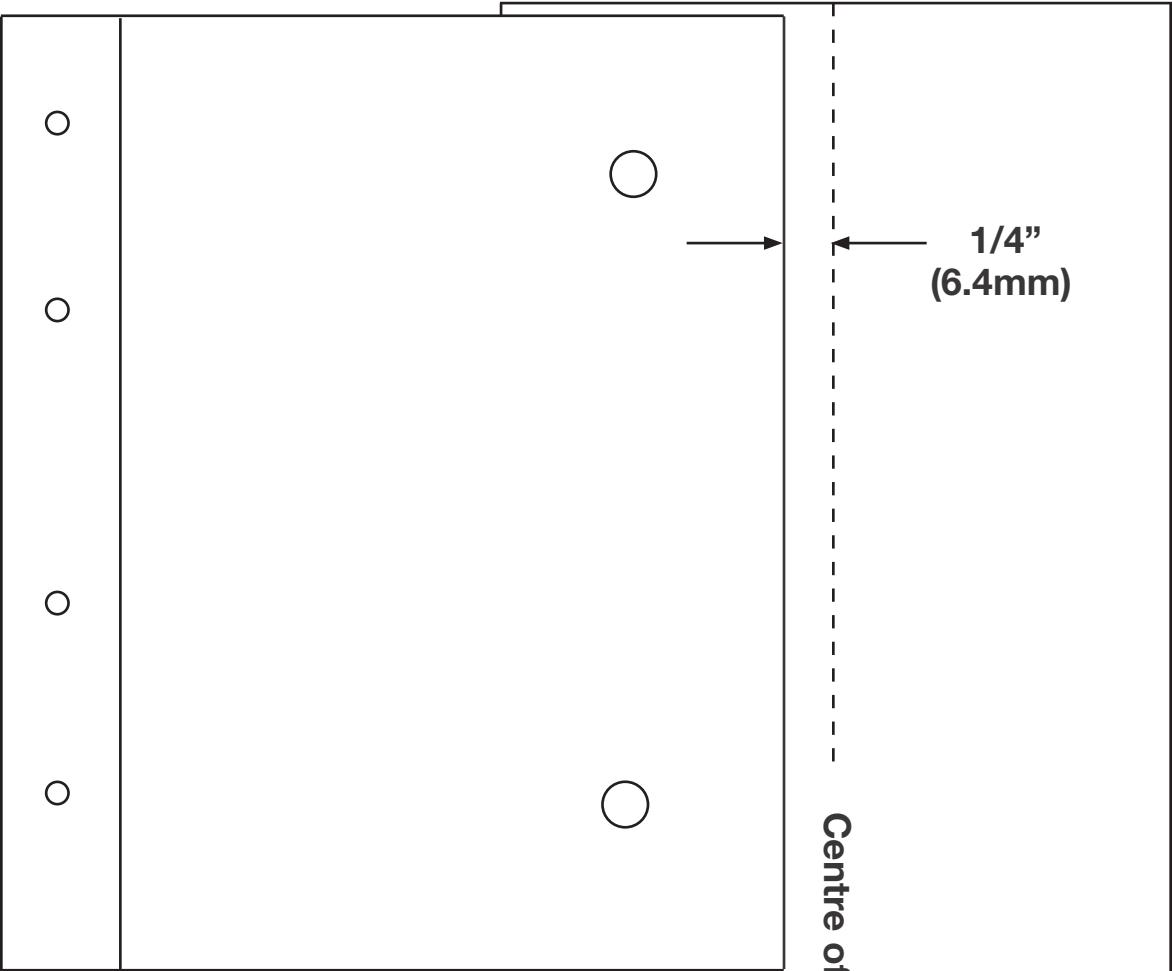

**Fig. 3**
- G. Secure appliance to the brackets using 4 fasteners (supplied) and the slots from the appliance (**Fig. 3**).